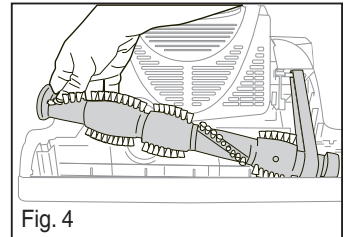

Fig. 4
- 2) Thread new belt around motor shaft and brush roll (Fig. 4).